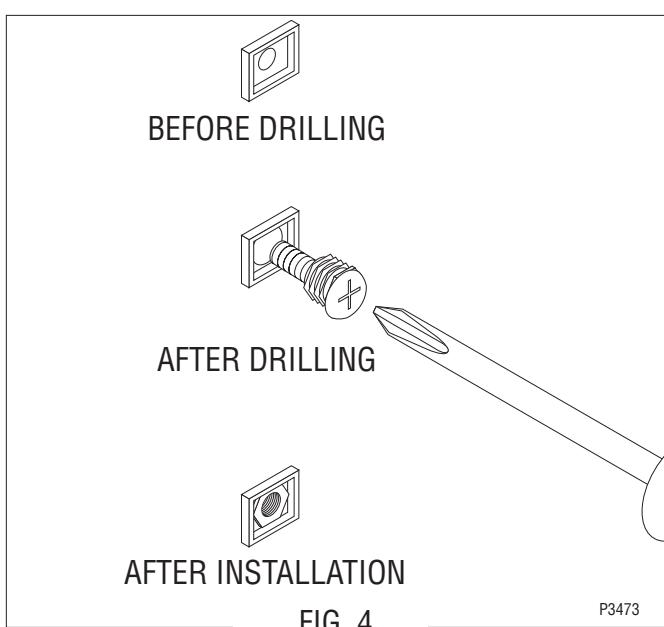

FIG. 4
- Install the screw removed in step 3 all the way through the threaded insert. Position the threaded insert into the new hole and tap flush to the surface using a small hammer and a #2 phillips head screwdriver. Remove the screw and discard. (Fig. 4)